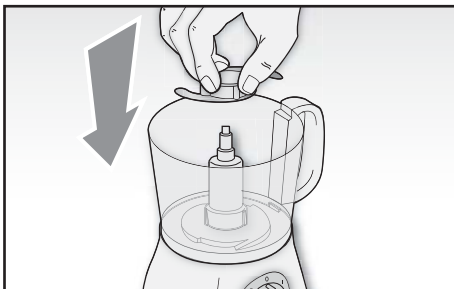

Fig. 5
Install the plastic blade (F), matching the internal slots at the base of the blade with the notches on the support and pressing it downwards (Fig 5).